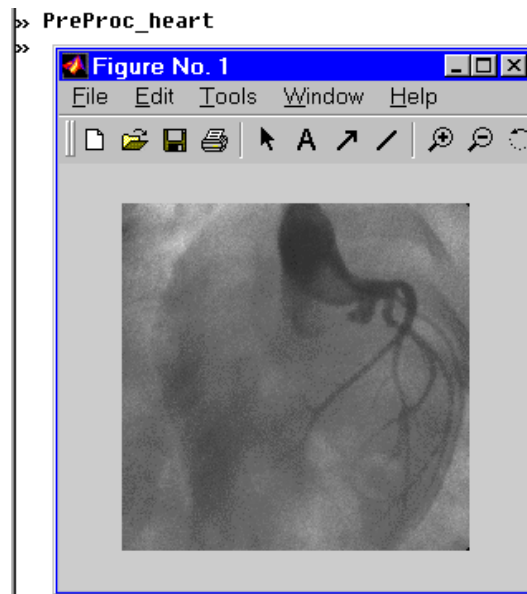

Figure 8-2 Unfiltered Image
2. Run a preprocessing script that assigns the image to a MATLAB array, by typing **PreProc_heart** at the MATLAB console prompt. Notice that this script also displays the unfiltered image of the heart for you to view, see Figure 8-2. The image can be found in the file `Heart.bmp` in your project directory.